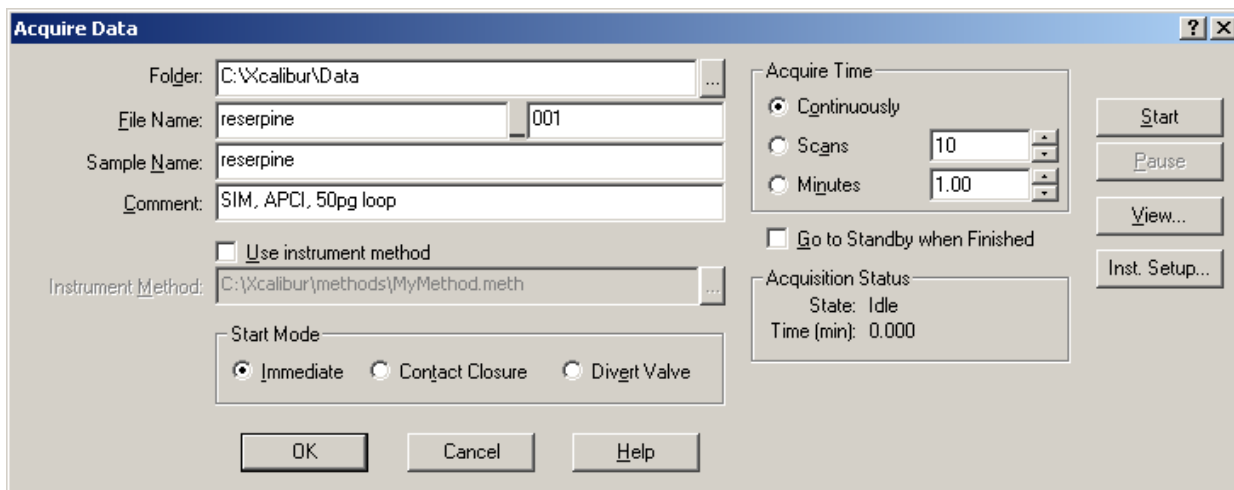

Figure 8-4. Acquire Data dialog box, showing the acquisition status of the raw data file
5. On the Control/Scan Mode toolbar, click on the Acquire Data button to open the Acquire Data dialog box. See Figure 8-4.